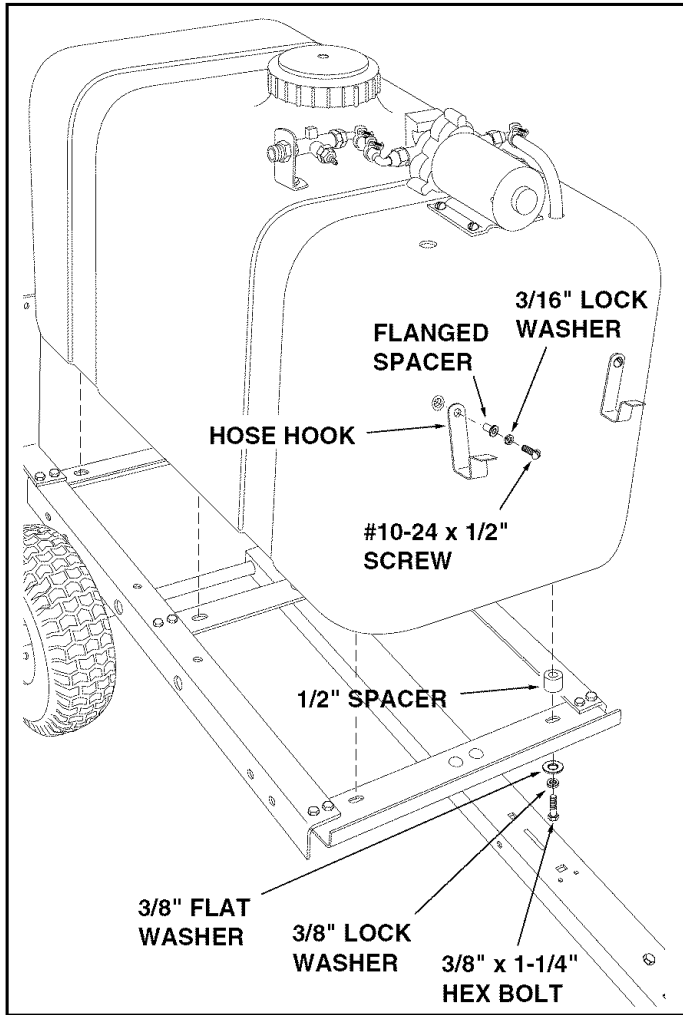

FIGURE 8
11. Attach the tank to the frame using six 1/2" spacers with six 3/8" x 1-1/4" hex bolts, 3/8" lock washers and 3/8" flat washers. Place the spacers between the tank and the frame. **Tighten** the six bolts until the lock washers are flattened. See figure 8.
12. Assemble the hose hooks to the front of the tank using two #10-24 x 1/2" screws, two 3/16" lock washers and two flanged spacers. **Tighten** the screws until the lock washers are flattened. See figure 8.